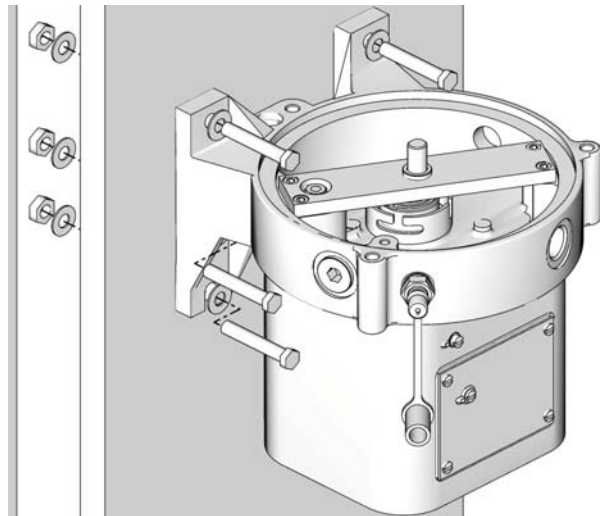

FIG. 2
2. Use 6 (six), 3/8" diameter bolts or studs and appropriate washers and nuts to mount pump. Tighten bolts securely (FIG. 2).